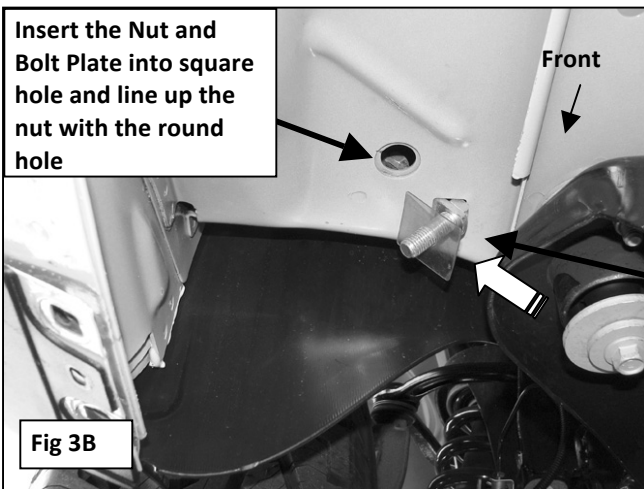

Fig 3B
4. Next, locate the round and square holes in the floor panel next to the body mount. Select (1) 12mm x 40mm x 10mm Nut and Bolt Plate and thread (1) 12mm Plastic Retainer part way onto it, **(Figure 3A)**. Insert the Nut and Bolt Plate into the square hole in the floor, **(Figure 3B)**. Line up the nut on the Nut and Bolt Plate with the round hole. **IMPORTANT:** The Plastic Retainer is designed to prevent the Bolt Plate from falling into the body cavity and to aid in mounting the Bracket. After inserting, thread the Plastic Retainer down flush against the body panel. **NOTE:** For passenger side installation, temporarily remove the ground strap if interfering with install.